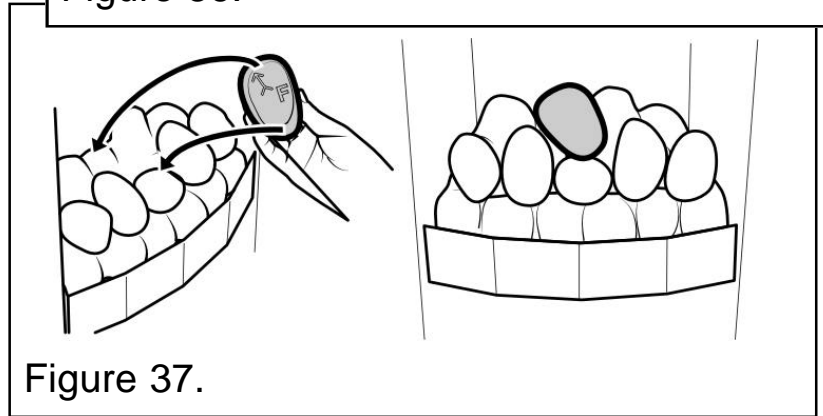

Figure 37.
8. Hold pebble 'F' upright with the arrow pointing to the top. Place pebble 'F' on top of pebble 'C'. It should rest against the rear of the pebble base (See figure 37).